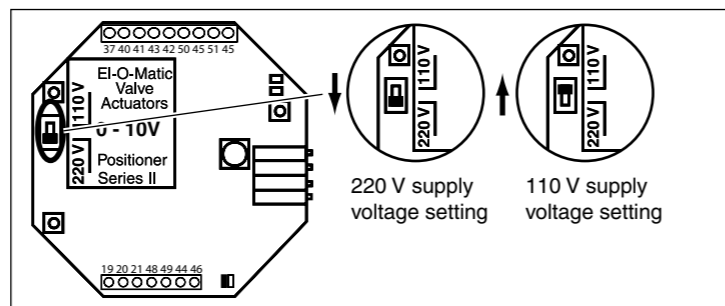

Fig. 4 Voltage selector switch setting (not on 3 Phase)
9. **IMPORTANT!** Check or set the voltage switch, on the positioner board, to the actual power supply voltage (see fig 4).
1. Apply power to the unit (terminals 11 and 12). Check voltage selector switch (see fig 4).